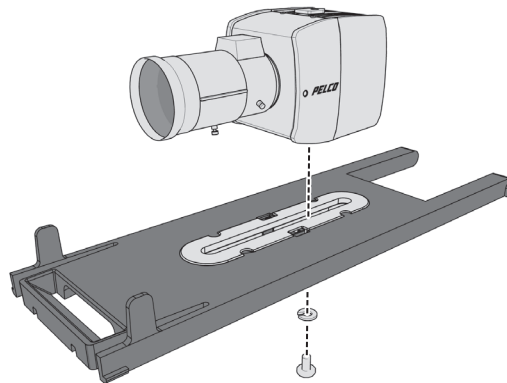

Figure 4. Attaching the Camera to the Sled
12. Attach the camera to the sled with the Phillips screw and split washer (supplied in the parts bag), refer to Figure 4. Align the front of the lens with the front edge of the sled. Tighten the screw, and then reinsert the sled.